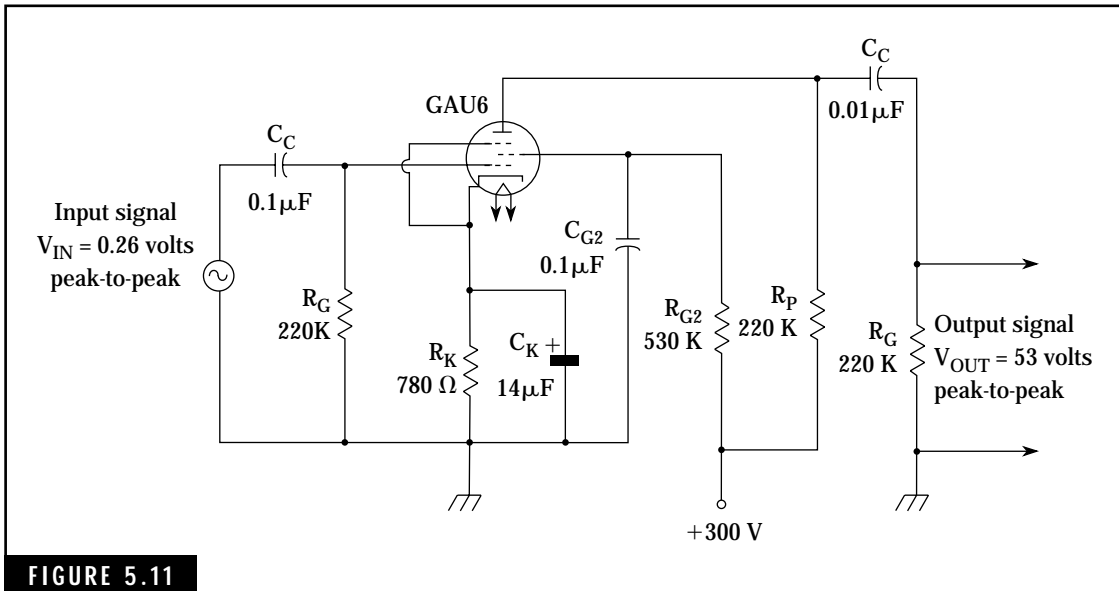

FIGURE 5.11
Figure 5.11 shows a 6AU6 pentode connected as a simple audio amplifier. This amplifier has a frequency response of approximately 100 Hz to 10 kHz, which is more than adequate for the voice frequency spectrum. Resistance-capacitance (RC) coupling is used in the input grid and output plate circuits for coupling the low-level signal into the amplifier and amplified output signal to the next stage. RC coupling isolates the low-grid and high-plate dc voltage levels from the input and output circuitry.